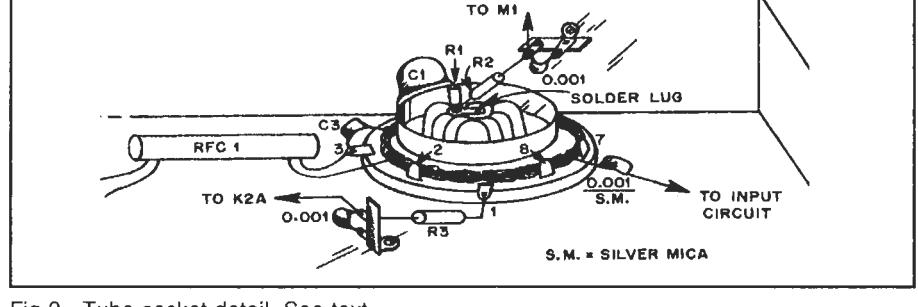

Fig 2—Tube socket detail. See text.
There are many sockets designed for use with this family of tubes. I recommend that you use one that incorporates a built-in screen bypass capacitor (1100 or 2700 pF); either one will do. A few of these types of sockets are so constructed that the four cathode pins are grounded internally; do not use one of these. An Eimac SK-600 or SK-620 socket is recommended. The four cathode pins (2, 4, 6, 8) and one of the filament pins (7) of the socket must be wired together to form one low-inductance connection. The easiest way to do this is to carefully bend pins 1 and 3 parallel to the chassis, and then strap together pins 2, 4, 6, 7 and 8. Make certain that this strap forms a complete circle around the socket. For strap material, I use some stretched and flattened shield braid removed from RG-58 coaxial cable. All connections made to the cathode, or the filament (pin 7), can be made anywhere along this ring. See Fig. 2 for details.
composition resistor with a resistance value that is the minimum required for complete stability. R1 should be placed as shown in Fig. 2; I found that a 3.9-ohm resistor kept my amplifier unconditionally stable.